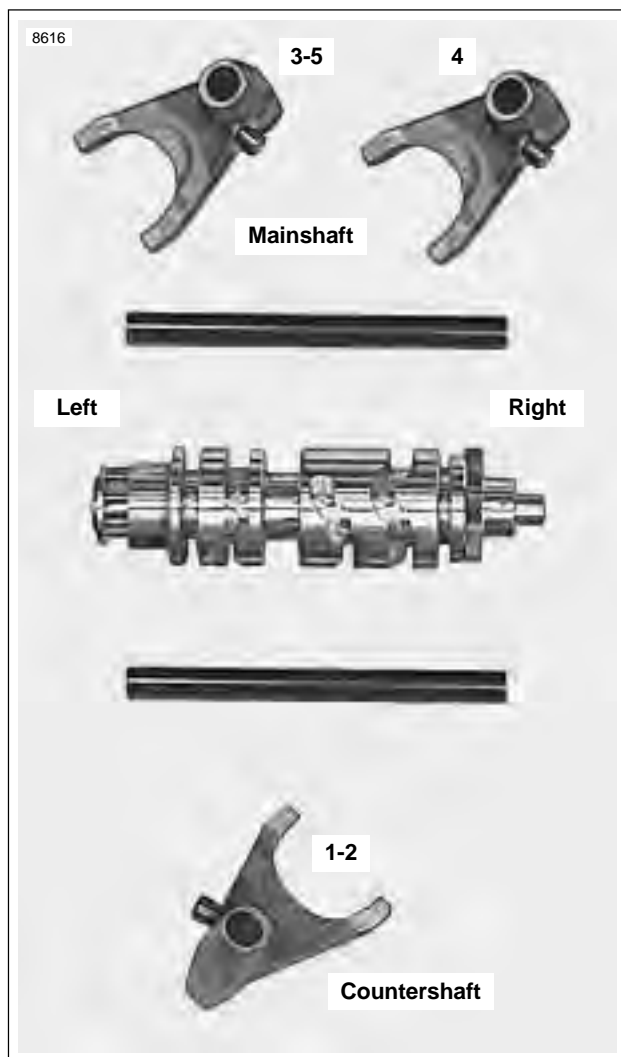

Figure 6-85. Shifter Forks, Drum and Shafts
- See Figure 6-85. Shifter fork design allows for one common part number for all three shifter forks. As the transmission runs, each shifter fork develops a certain wear pattern with its mating parts. For this reason, it is important that each shifter fork be reinstalled in its original location.